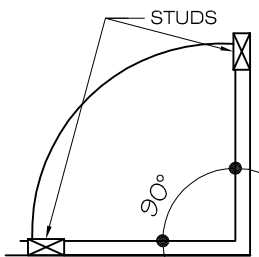

FIG.1
3. Ensure that there is sufficient structural support behind your shower wall to bare the weight of the door. If such is not the case, then prior to the installation of your shower wall you will need to reinforce the walls with wooden studs. see FIG. 1.